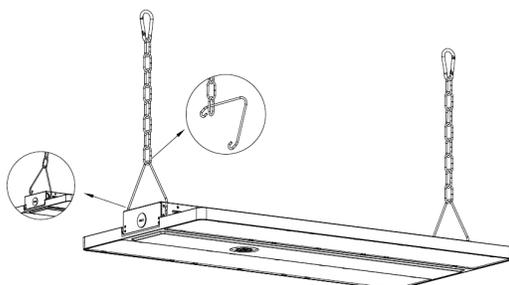

Fig. 1
1. Secure the chain to the V-hook. (Fig. 1)
3. Install the V-hook on each end of the luminaire. (Fig. 1)